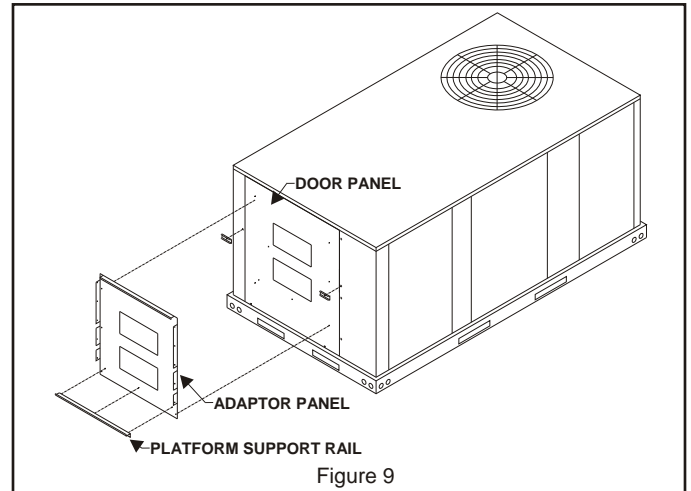

Figure 9
8. Verify the provided adaptor panel is secured to the new door panel. Also verify the platform support rail is secured to the adaptor panel. **See Figure 9.**